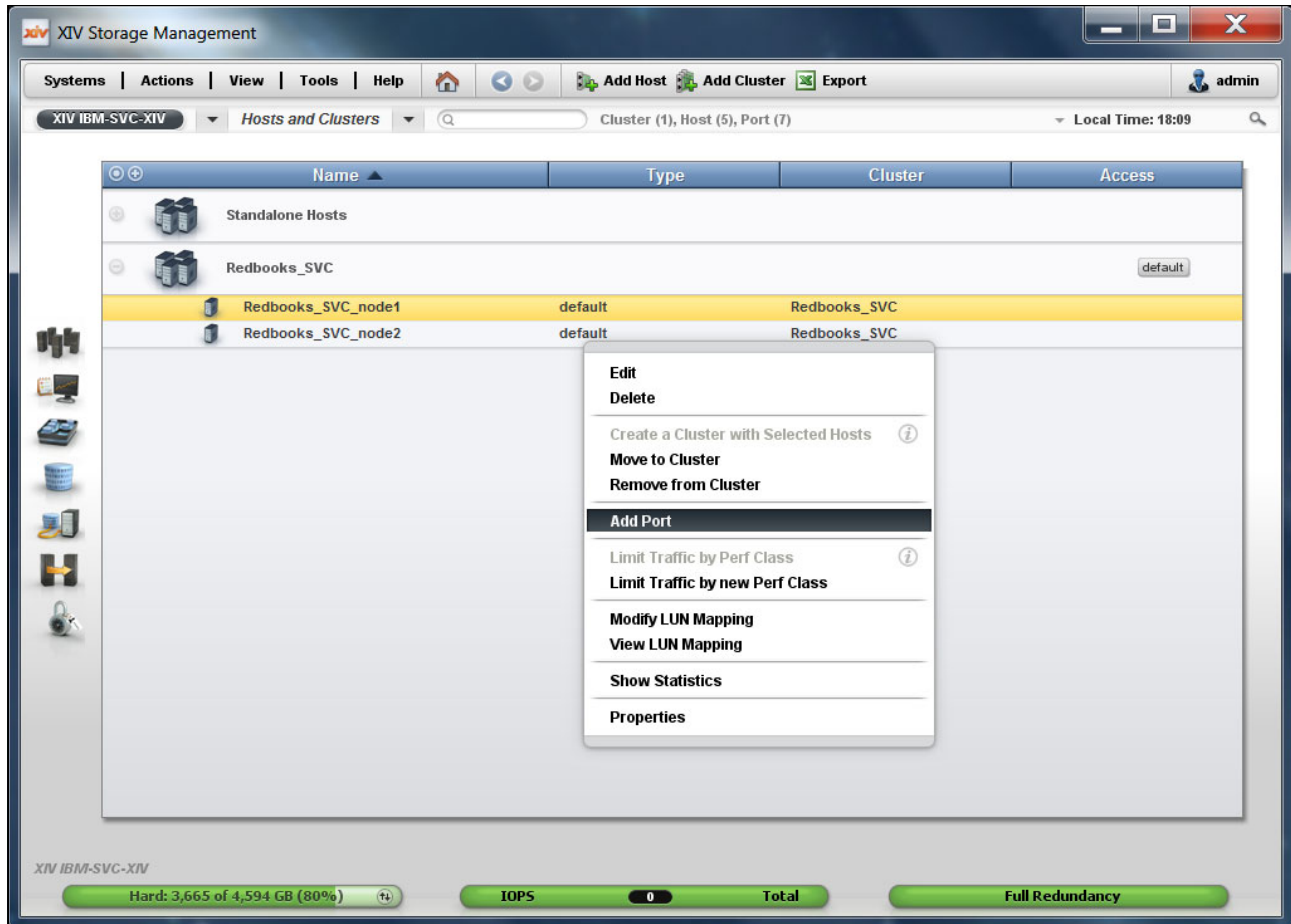

Figure 13-8 Adding a port to a node of the SAN Volume Controller or IBM Storwize cluster
6. After adding all SAN Volume Controller or IBM Storwize nodes as hosts to the cluster, the Hosts and Clusters pane looks similar to Figure 13-8.